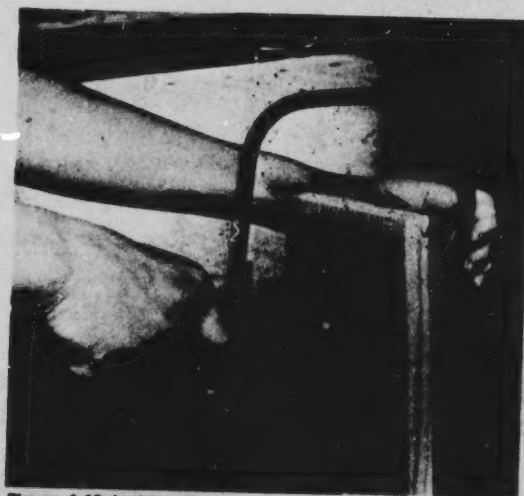

Figure 4-19 Inside sawing
5. Cut on the waste side of the pencil line (*Figure 4-19*).